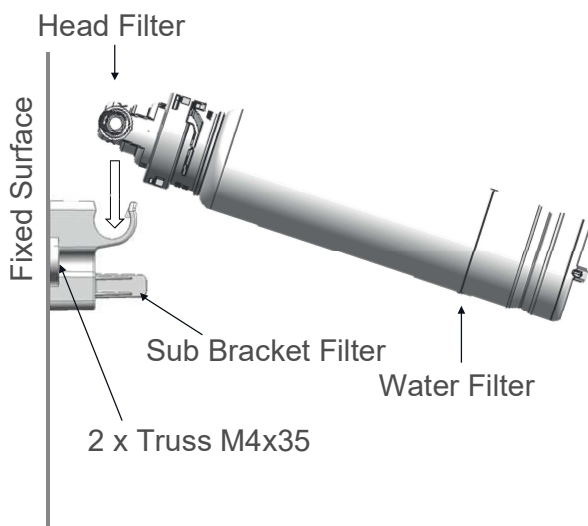
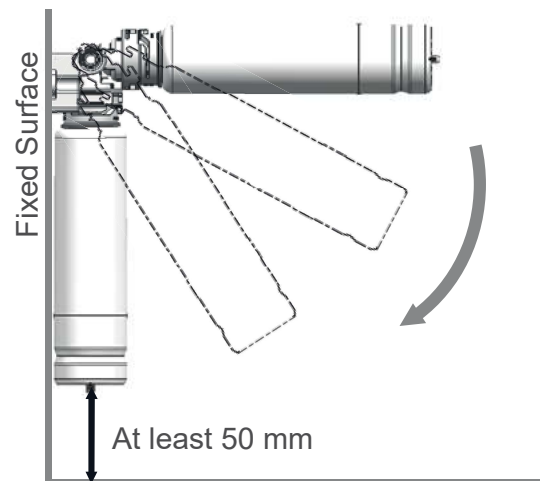

Figure 5: Sub Bracket Filter and Water Filter fixing direction.
Figure 6: Water Filter usage setting.
Step 9: Determine the mounting position for the Water Filter and fix the Sub Bracket Filter ⑥ with 02 pcs of Truss M4x35 ⑦ to a fixed surface. The direction to fix Sub Bracket Filter is referred to in Figure 5. Ensure the Water Filter is in a convenient location to access easily every 6 months for replacement. Ensure the clearance from the bottom of Water Filter is at least 50 mm to perform filter removal (Figure 6).
We recommend fitting the Water Filter in a vertical orientation with the Head Filter at the top as in Figure 6.